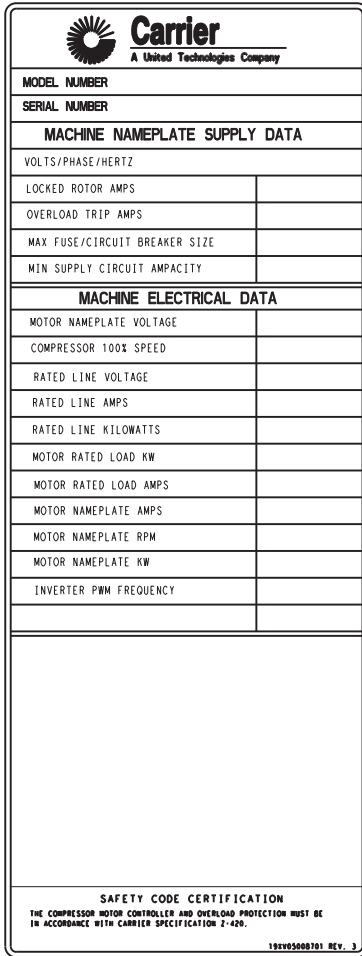

Fig. 10 — Machine Nameplate
2. From the machine nameplate (Fig. 10) located inside the VFD enclosure: